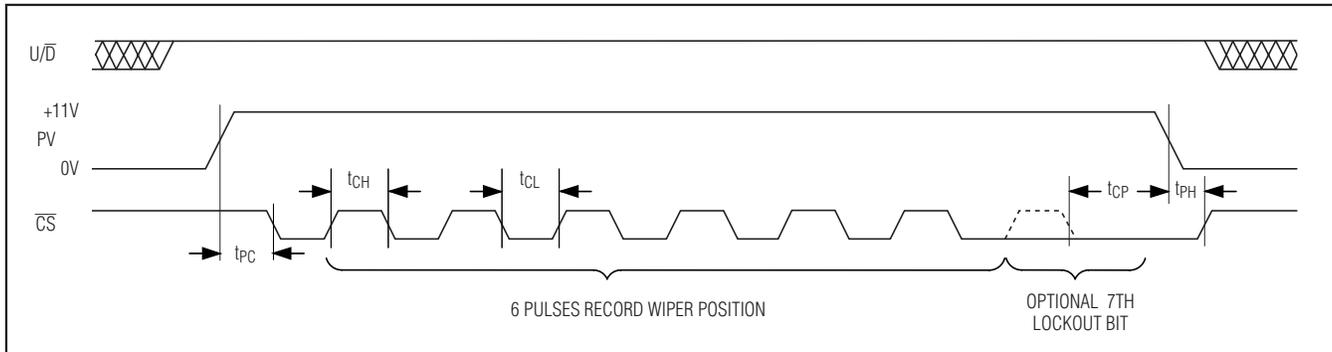

Figure 5. One-Time Program Mode, Serial-Interface Timing Diagram
Change the wiper's power-up position using the PV one-time programming sequence after power-up (see Figure 5). After setting the wiper to the desired power-up position, perform the following six-step sequence:
- 4b) Pulse \overline{CS} high for seven cycles, consisting of \overline{CS} starting low and going high for at least t_{CH} and then low for at least t_{CL} , to change the wiper power-up position and lock the wiper in that same position. The seventh \overline{CS} pulse is labeled the optional lock-out bit in Figure 5.